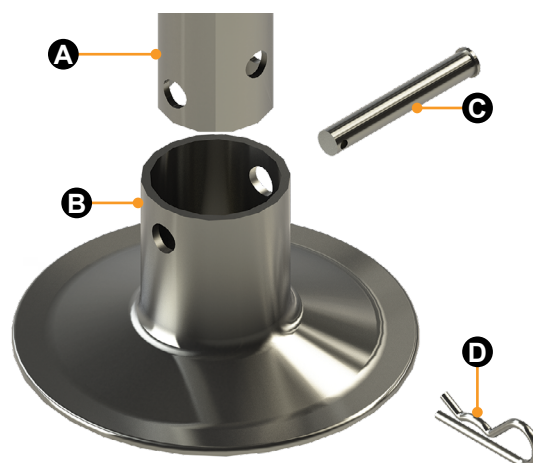

Fig.1
7. Reattach the footpad to the jack leg by sliding the footpad back over the bottom of the jack leg and securing it with the clevis pin and hairpin cotter pin previously removed (Fig.1).